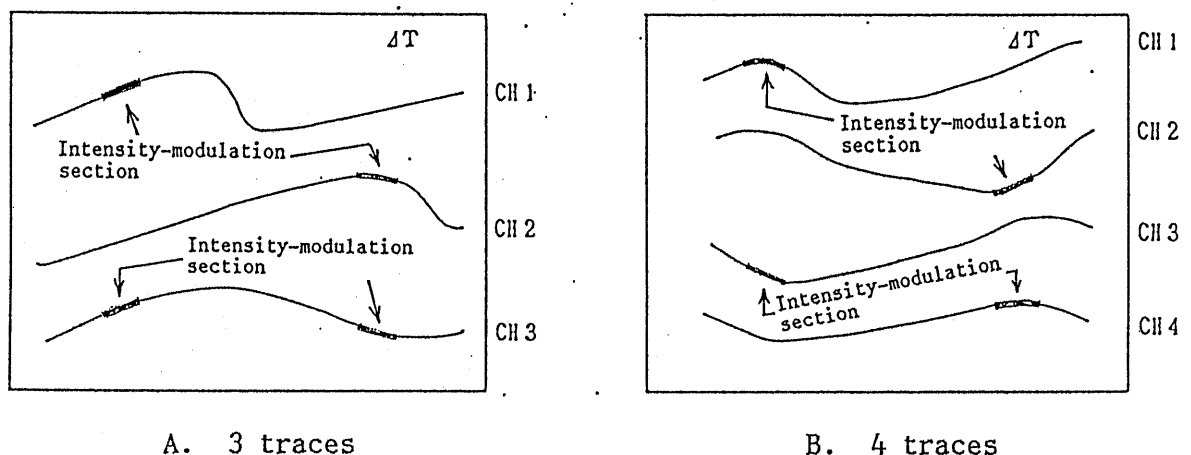

Figure 4-8. Multi-trace Delayed Sweeps
When in the 3-trace mode, one intensity-modulated section is displayed on each of the waveforms of the two leftmost channels as indicated at the VERT MODE ③⑨ and two intensity-modulated sections are displayed on the waveform of the remaining channel. For example, when in a 3-trace mode with CH1, CH2 and CH3, one intensity-modulated section is displayed on each of the CH1 and CH2 waveforms and two intensity-modulated sections are displayed on the CH3 waveform. (See Figure 4-8 A.)
When in a 4-trace mode, one intensity-modulated section is displayed on each of the channel waveforms. (See Figure 4-8 B.)